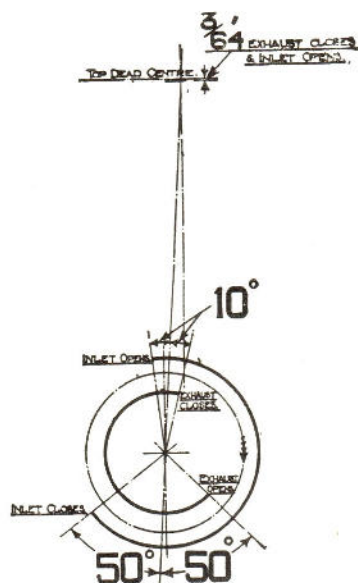

Fig. 13. Timing Diagram.
5. Having checked timing with diagram given in Fig. 13 proceed to mark the timing wheels as follows:—